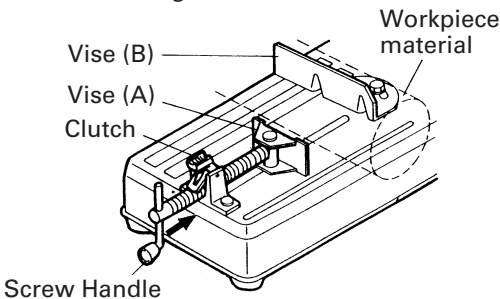
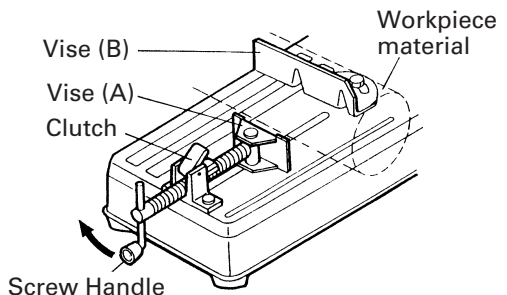

Fig. 4
Fig. 5
1. Procedure for fixing the cutting material (Fig. 4 and 5).
Place the workpiece material between Vise (A) and Vise (B), raise the clutch and push the Screw Handle to bring Vise (A) lightly into contact with the workpiece material, as shown in Fig. 4. Then, turn the clutch down, and securely fix the workpiece material in position by turning the Screw Handle. When the cutting job is completed, turn the Screw Handle 2 or 3 times to loosen the vise, and remove the workpiece material, as shown in Fig. 5.